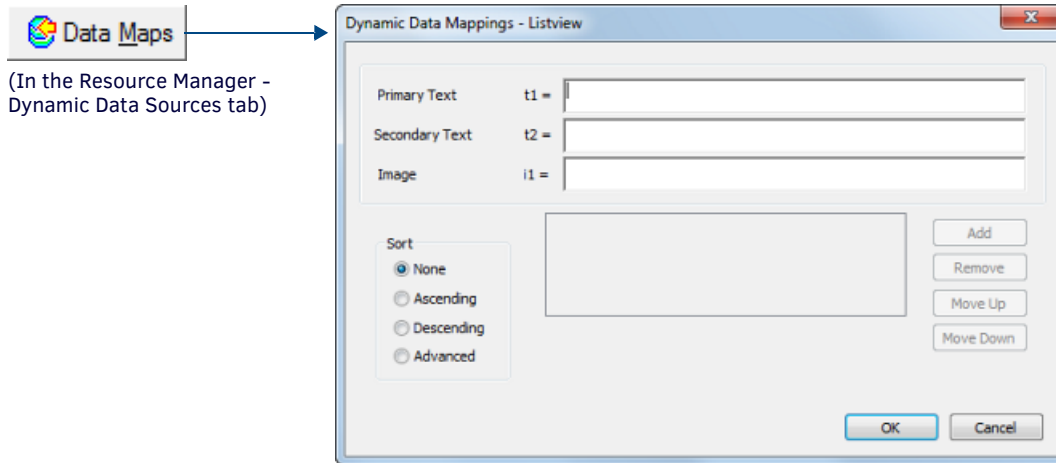

FIG. 128 Dynamic Data Mappings - Listview Buttons dialog
4. Click the **Data Maps** button to access the *Dynamic Data Mappings - Listview Buttons* dialog (FIG. 128):